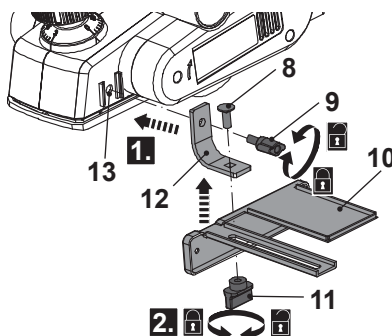

Fig. 3
1. Align the hole in the angle bracket (12) to the mounting thread (13) and fix it with a wing screw (9) (Fig. 3, Step 1).
2. Attach the parallel guide (10) to the angle bracket (12). Fix it with the mounting bolt (8) and wing nut (11) (Fig. 3, Step 2).
3. Adjust the parallel guide (10) to the desired width.
4. Tighten the wing nut (11).